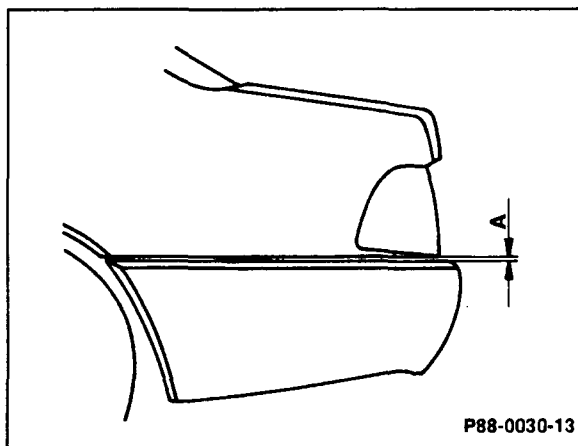

Figure 14
12. Inspect alignment of assembly and adjust if necessary ( $A = 5 \text{ mm}$ , Figure 14).